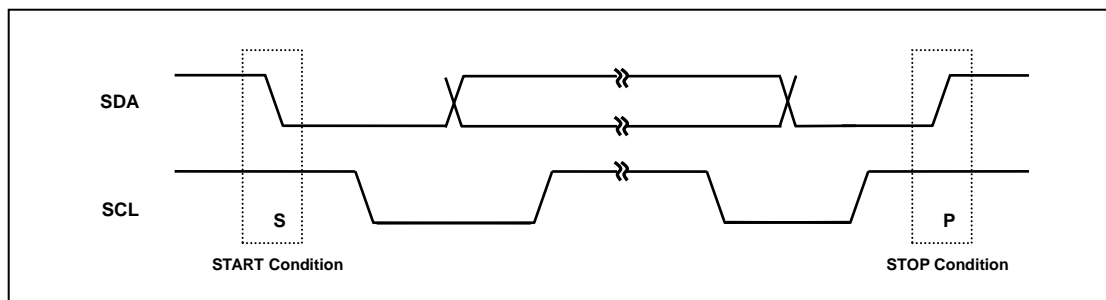

Figure11.6. START and STOP condition
Within the procedure of the I²C-bus, unique situations arise which are defined as START(S) and STOP(P) conditions (see Figure 11.6.).